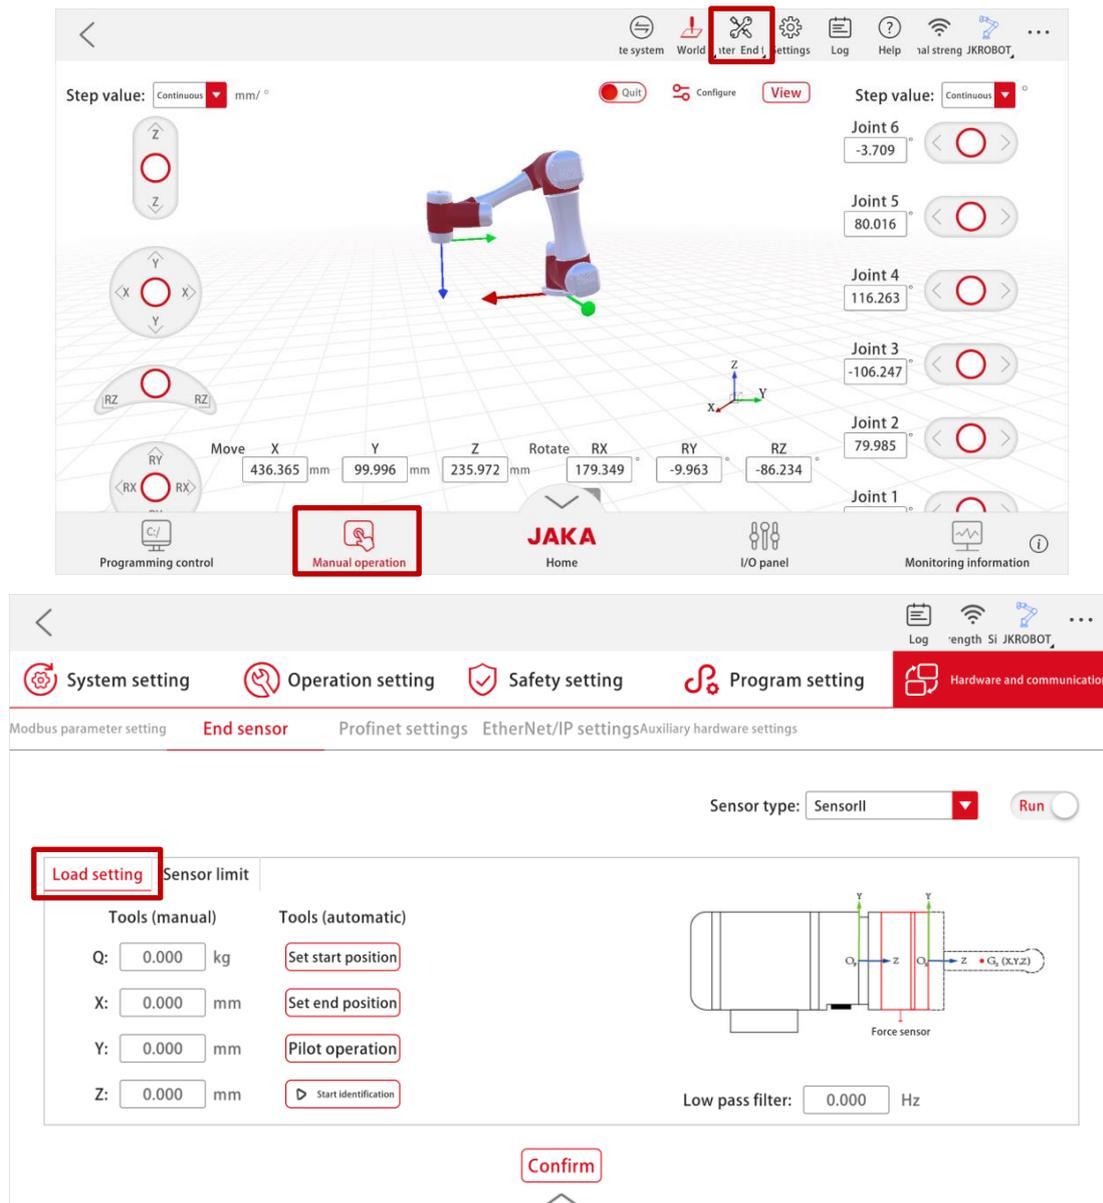

Figure 3-9 Load Setting Interface
- b. Tap [Settings] at the upper right of the Home page, then tap [Hardware and communication] → [End sensor] → [Load setting] to enter the load setting interface (See Figure 3-9);